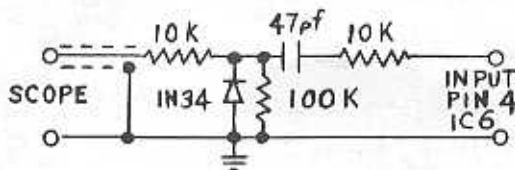

Figure 1
2. Connect oscilloscope through detector to pin 4 of IC6. See Figure 1.